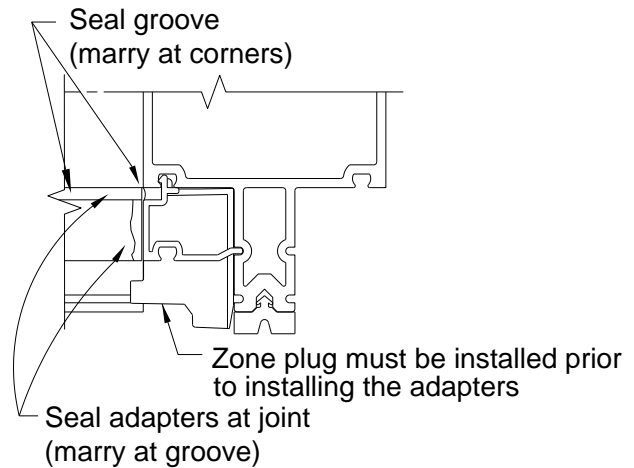

Figure 35: Sealing Glazing Adapters
- 14.4 Install horizontal adapters maintaining an equal gap at each end. Once all adapters have been installed in the opening, seal all joints between the vertical and horizontal adapters. Run a bead of sealant in the groove formed between the adapter and mullion. This seal must be continuous around opening and must marry with the seal at the horizontal to vertical adapter joints. See *Figure 35*.